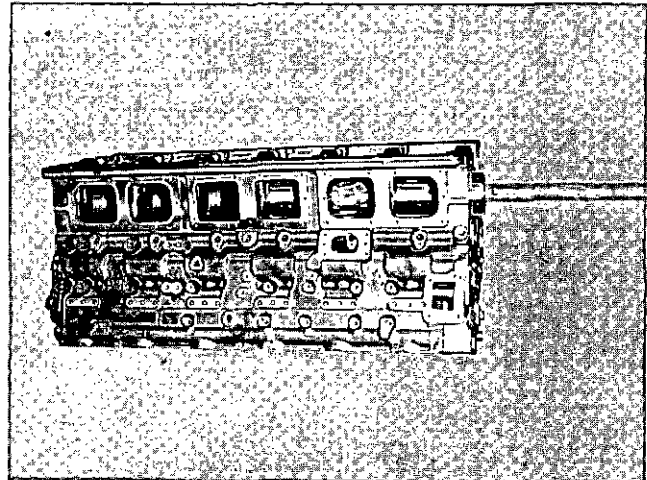

Fig. 1-1-16, V40107. Reaming main bearing bore
7. Use ST-219 Hand Driver to turn the reamer. Fig. 1-1-16. This driver is loosely pinned to prevent up and down or side thrust of reamer while it is being turned.